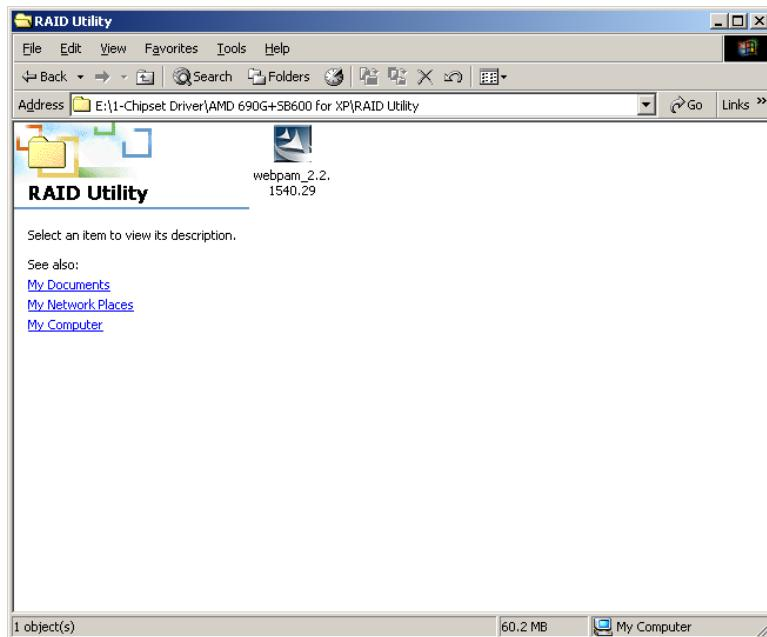

Figure 7-29: RAID Utility Icon
Step 6: A new window opens (**Figure 7-29**).
Step 7: Double-click the **Icon** **Figure 7-29**.